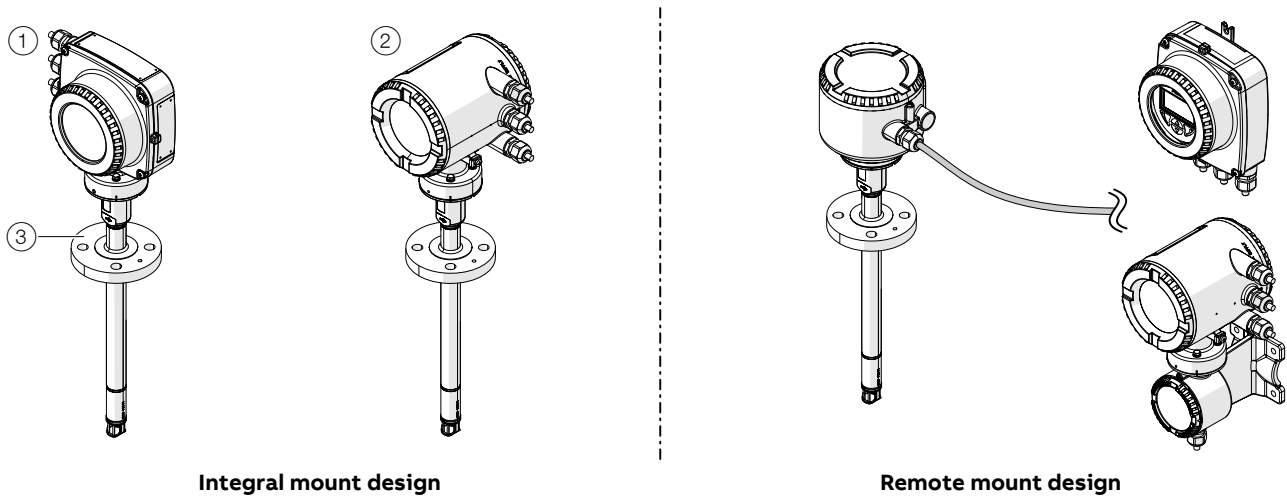

Figure 1: Sensor FMT430, FMT450 (example)
Design	Integral mount design (see "Figure 1" on page 3), remote mount design; Transmitter optionally available in single-compartment housing (1) or dual-compartment housing (2)